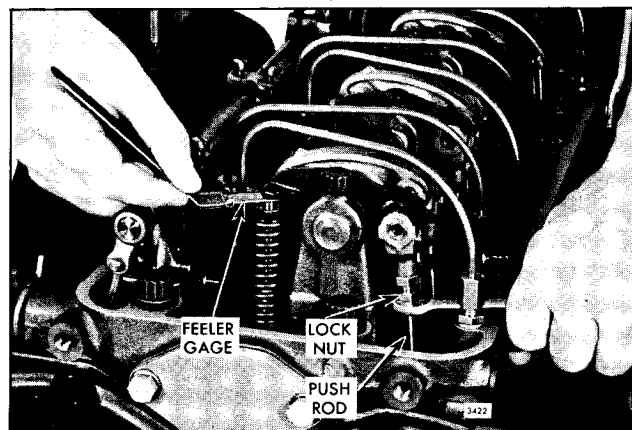

Fig. 1 - Adjusting Valve Clearance
4. Place a .012" feeler gage, J 9708, between the valve stem and the rocker arm, see Fig. 1. Adjust the push rod to obtain a smooth pull on the feeler gage.